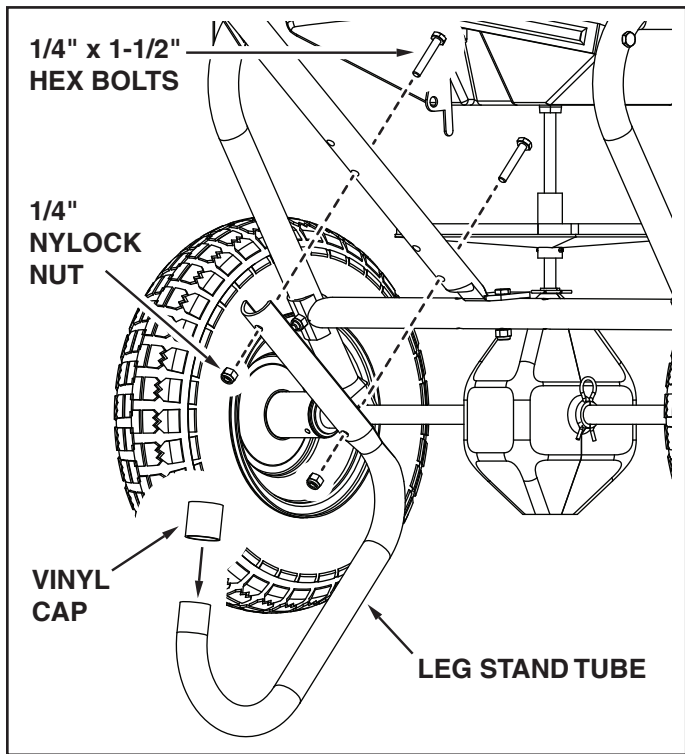

FIGURE 5
12. Assemble the leg stand tube to the bottom set of holes in the handle tube (long) using two 1/4" x 1-1/2" hex bolts and 1/4" nylock nuts. See figure 5.